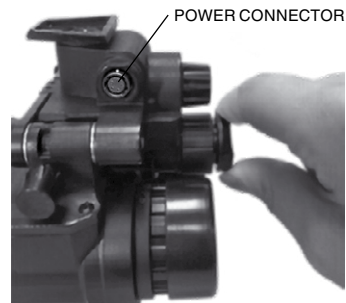

FIGURE 2.21. POWER CONNECTOR
- (1) Install (4) CR123 batteries into the battery holder.
- (2) Attach the battery holder to the rear of the helmet or headgear.
- (3) Run the power cord from the battery holder to the NVG.
- (4) Plug the power cord into the NVG (Figure 2.21).